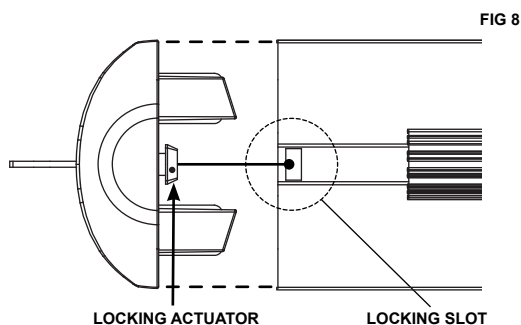

FIG 8
- Pull back the Buffer Strip to allow access to the end of the Cross Bar. Insert End Cap into the Cross Bar by locating the two 'feet' of the End Cap into the void inside the Cross Bar (Fig. 8).